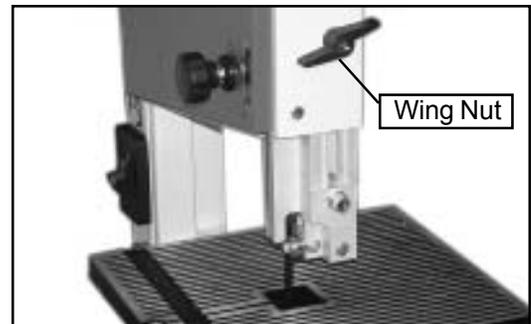

Fig.13
- b. To adjust, loosen the wing nut at the side of the upper wheel housing (See Fig. 13).
- d. Tighten wing nut after proper height is set (See Fig. 13).